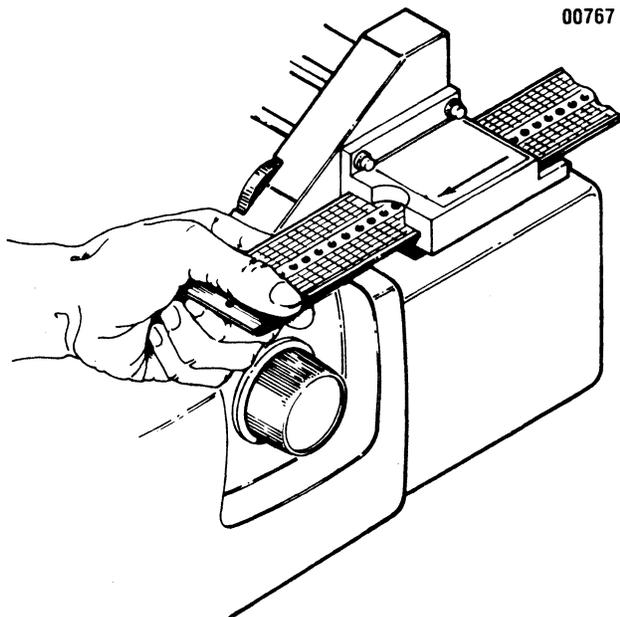

Figure 4-4 Loading Paper Tape
- Load tape in reader as shown in Figure 4-4. Channel 1 is the left most channel when facing the front of the reader.